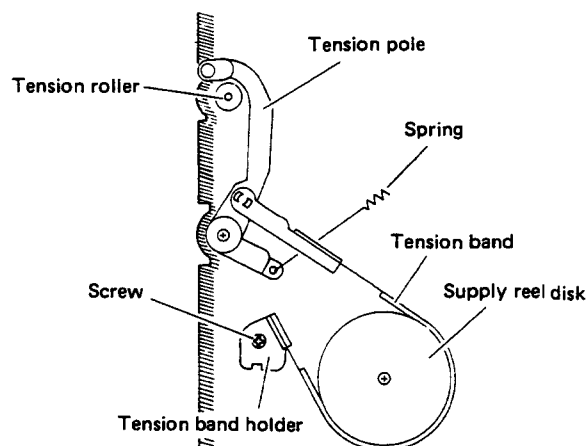

Fig. 2-19 Tension pole position
3. As indicated in Fig. 2-19, adjust the tension band holder securing position so that the end of the tension pole overlaps the left edge of the main deck.